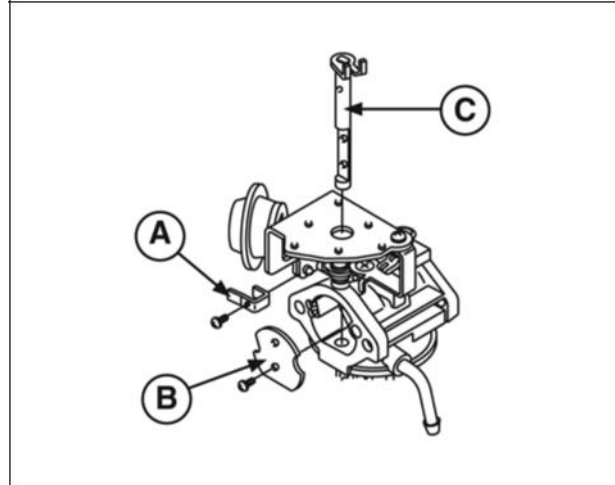

Figure 33
7. Remove screw and choke pre-load lever (**A**, Figure 33).